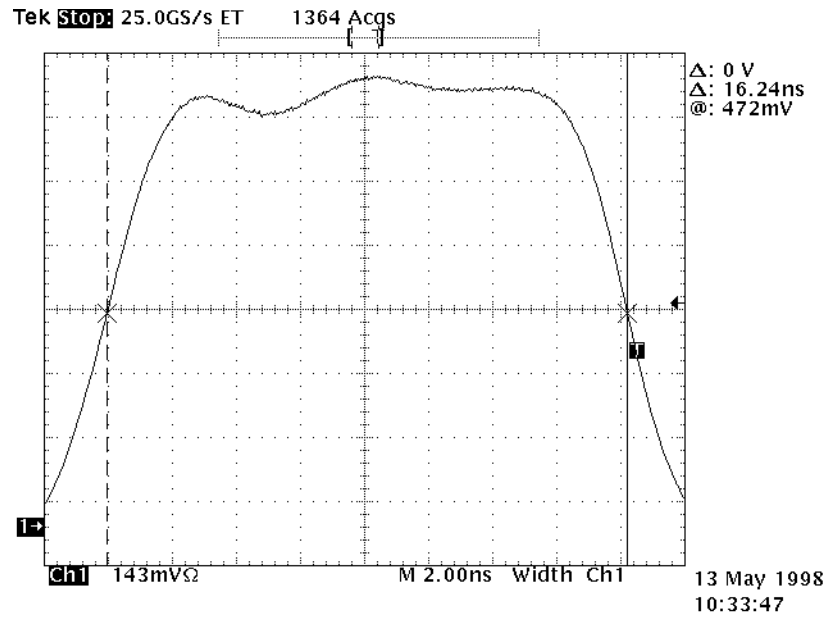

Figure 8-3. Positive Pulse Width at 50%
10. Repeat steps 4 through 9 for the mid-level negative waveform, as shown in Figures 8-3 through 8-5.